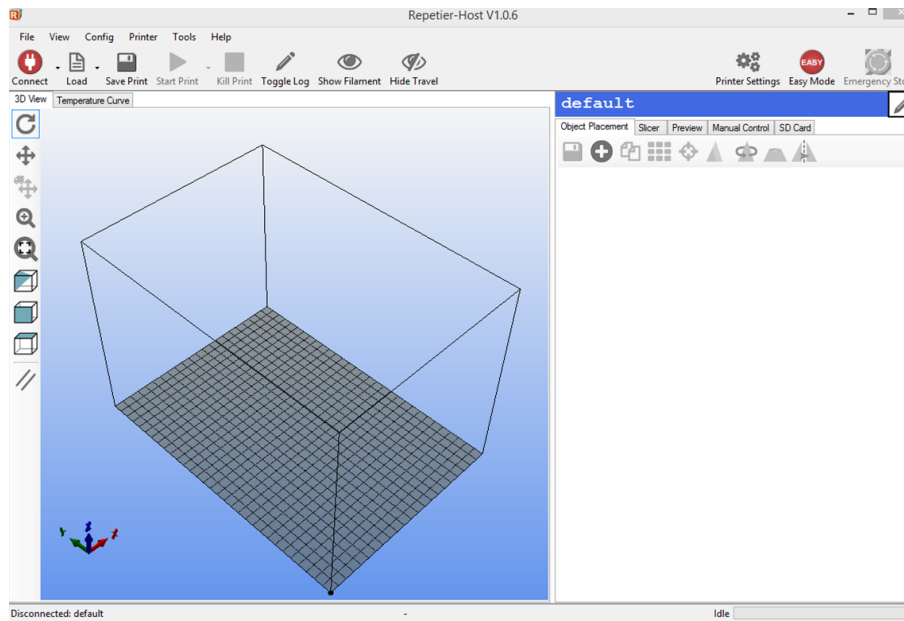

Figure 2.19: The Repetier-Host interface
2. Run the set-up file to install the Repetier-Host software. After the installation, open the Repetier-Host. (Figure 2.19)